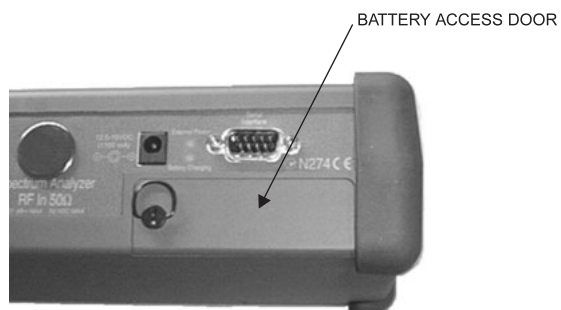

Figure 2. Battery Access Door Location
1. With the Site Master standing upright on a stable surface, locate the battery access door (Figure 2).